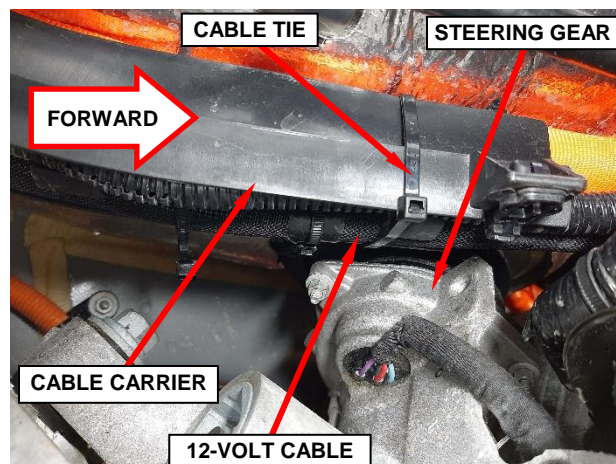

Figure 38 – Cable Tie at Steering Gear
34. Using the cable tie provided in the campaign kit, secure the 12-volt cable to the high voltage cable carrier to prevent cable contact to the steering gear (Figure 38).